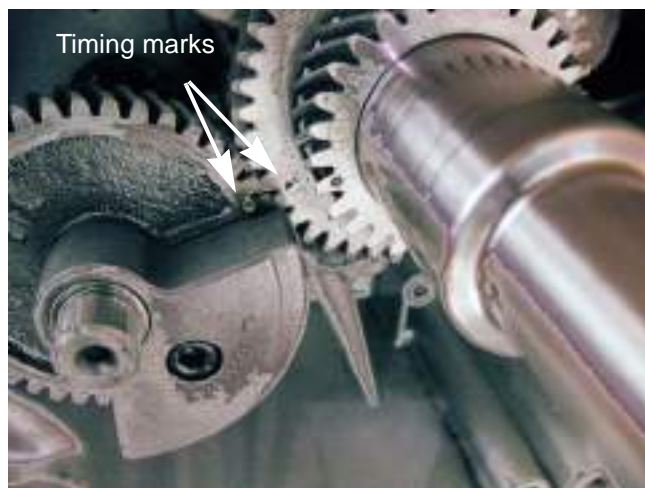

Figure 10.21
- 6c. Insert the balance shaft while aligning the timing marks. See Figure 10.21.